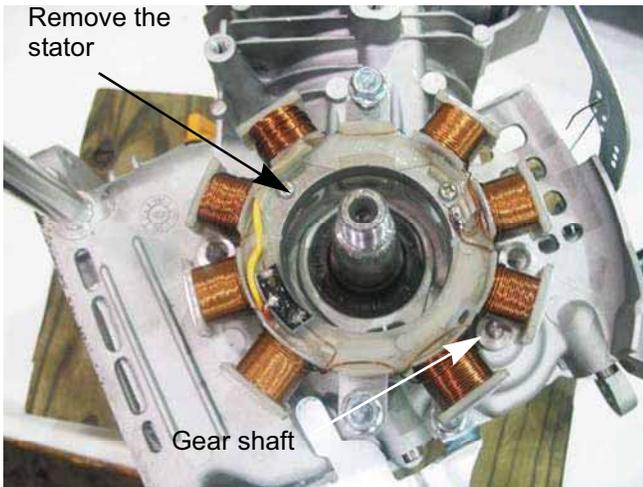

Figure 4.42
**NOTE:** If the engine is equipped with an alternator, remove the stator for easier access to the shaft. See Figure 4.42.